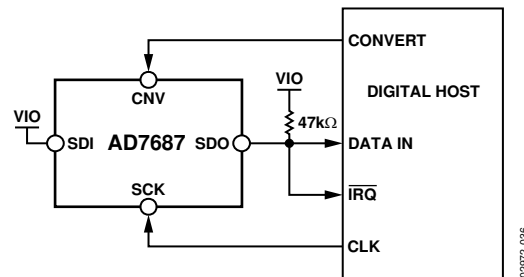
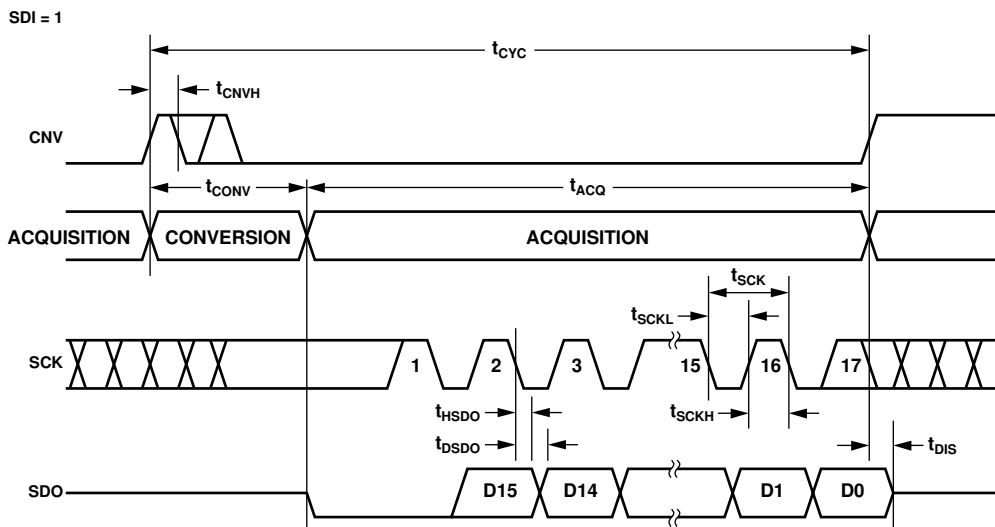
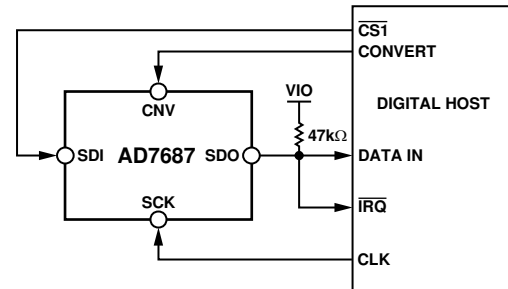
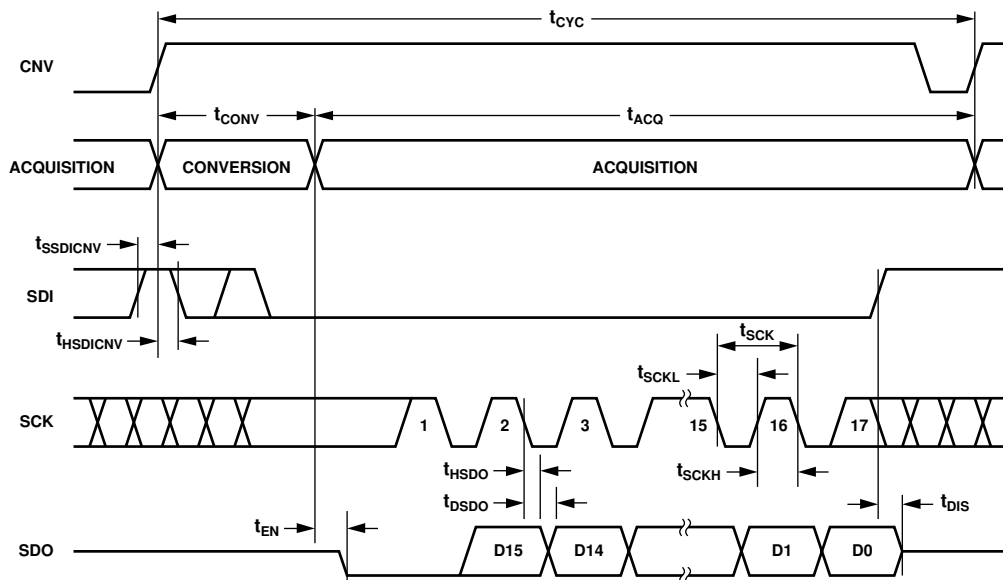

Figure 36. CS Mode, 3-Wire with BUSY Indicator Connection Diagram (SDI High)
Figure 37. CS Mode, 3-Wire with BUSY Indicator Serial Interface Timing (SDI High)
Figure 40. $\overline{\text{CS}}$ Mode, 4-Wire with BUSY Indicator Connection Diagram
Figure 41. $\overline{\text{CS}}$ Mode, 4-Wire with BUSY Indicator Serial Interface Timing
- In the \overline{CS} mode if \overline{CNV} or SDI is low when the ADC conversion ends (see Figure 37 and Figure 41).
Figure 36 shows the connection diagram and Figure 37 gives the corresponding timing.
Figure 40 shows the connection diagram and Figure 41 gives the corresponding timing.